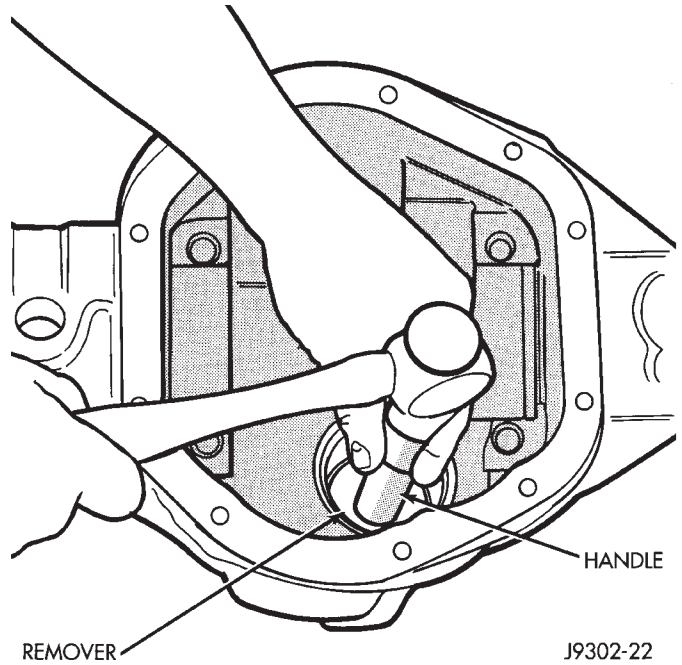

Fig. 36 Front Bearing Cup Removal
(7) Use a suitable pry tool or a slide hammer mounted screw to remove the pinion shaft seal.
(8) Remove oil slinger, if equipped, and front pinion bearing.
(9) Remove the front pinion bearing cup with Remover C-4345 and Handle C-4171 (Fig. 36).